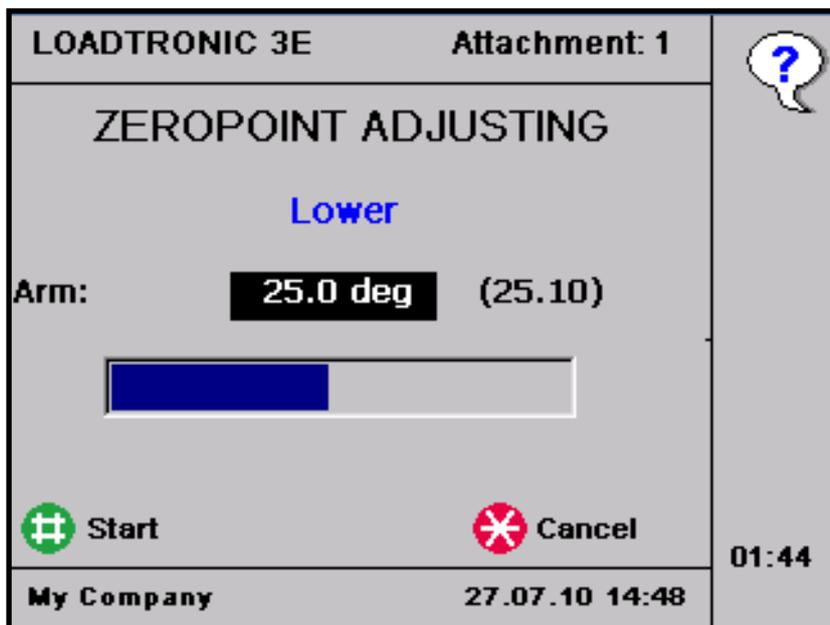

Figure 3-10 Operate the boom during zeropoint adjustment.
6. Operate the boom at a slow and even speed according to the instructions on the display: *Lower – Lift – Lower*, refer Figure 3-10.